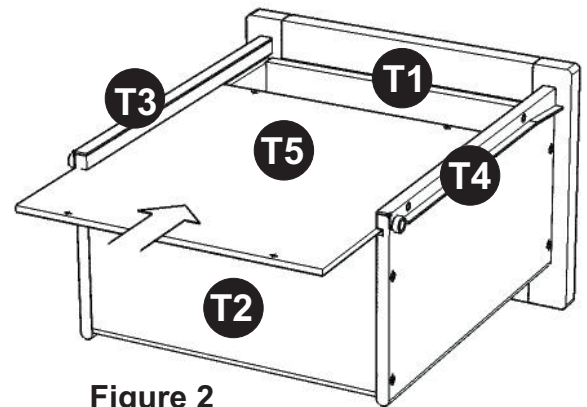

Figure 2
Insert Cam Lock Screws into the pre-drilled holes of Top (A), Side Panels (B) and (C), Middle Panel (D) and Base (J). (See Figure 2)
Slide T5 into the grooves in T3 and T4. Be sure to push T5 all the way forward so it meets T1. (See Figure 2)